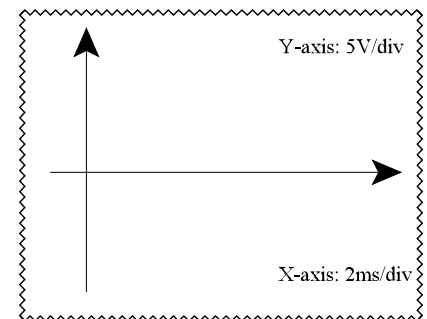

Fig. 4
A. Draw the output voltage waveform of the circuit on the scope screen shown Fig. 4.